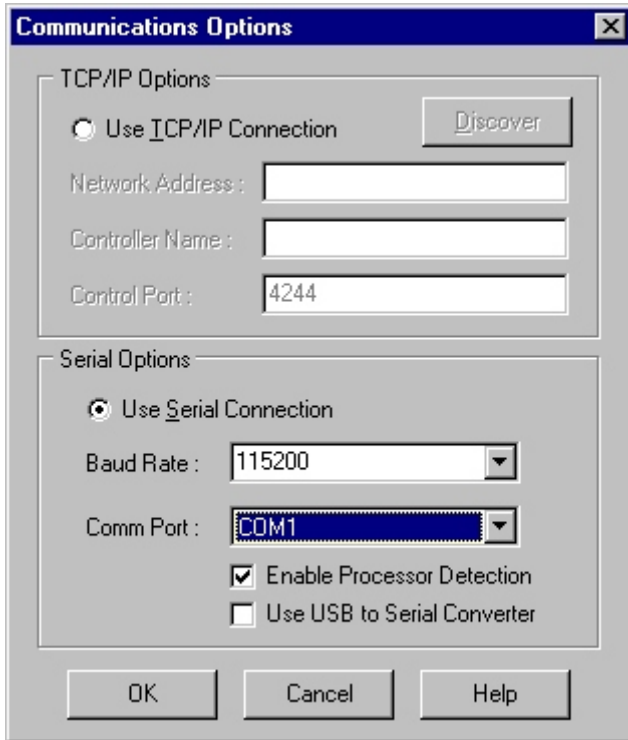

Figure 1-4. RFU - Communications Options Window.
3. On the Communications Options window (Figure 1-4), in the Comm Port field, select the COM port on the computer that is connected to the autosampler. Press the OK button.